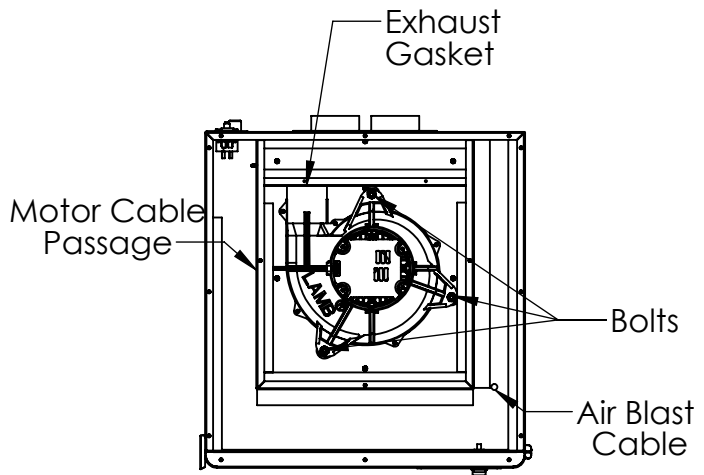
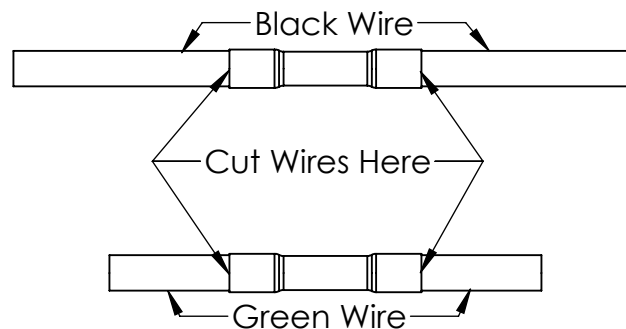

Fig. 2
Fig. 3
5. Disconnect the motor cables at the white connectors and locate the 3 mounting bolts that secure the motor in place (Fig. 2). Use a 1/2" socket or wrench to remove the motor mounting bolts. Once the bolts have been removed, you can take out the motor. Make sure to save the 3 bolts and 3 metal standoffs for mounting the replacement motor.
- ii. In the front right corner of the unit you will see a black cable routed through the sheet metal bulkhead and up to the back of the *Control Panel* (Fig. 2). Follow this black cable upwards from the bulkhead until you find two, red, double crimped connectors. Once they have been located, remove them by cutting the wires at both ends of the connector (Fig. 3). You can discard these connectors.
- ii. In the front right corner of the unit you will see a black cable (Air Blast cable) routed through the sheet metal bulkhead and up to the back of the *Control Panel* (Fig. 2). Follow this black cable upwards from the bulkhead until you find two, red, splice connectors. Once they have been located, cut the black and green wires at the base of the connectors attached to those wires. Once completed correctly, the Air Blast cable coming up through the bulkhead should be free of any connectors. You can now discard the connectors.
NOTE: Make sure that the gasket that seals the motor's exhaust port (in the motor compartment towards the back of the unit - see Fig. 2) is not compromised and is still in proper position. If you feel that your current gasket is compromised and need a replacement, please contact Vaniman.